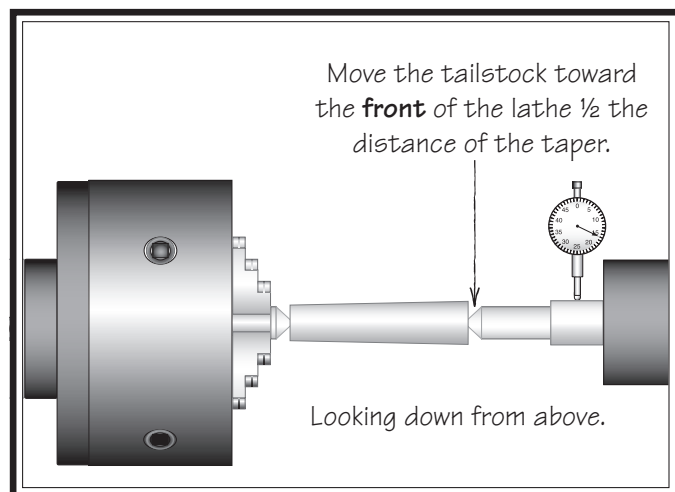

Figure 46. Adjust tailstock toward the operator.
- If the test stock is *thicker* at the tailstock end, move the tailstock toward the *front* of the lathe $\frac{1}{2}$ the distance of the amount of taper (see **Figure 46**).